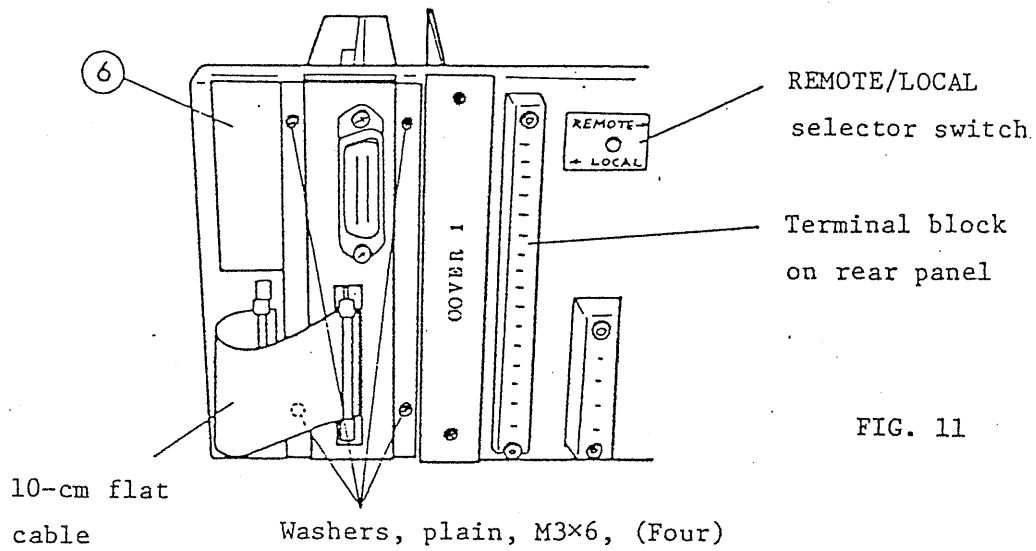

FIG. 11
- 9) Insert the interface (to which the I/F angle is fixed) in the PAE from its rear. Connect the interface to the connector board with the 10CM flat cable (which accompanies the I/F). (See Figure 11.)